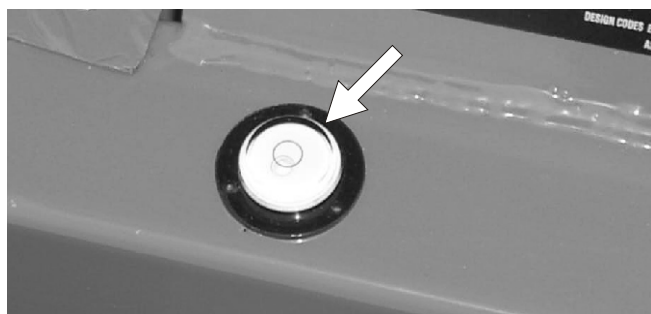
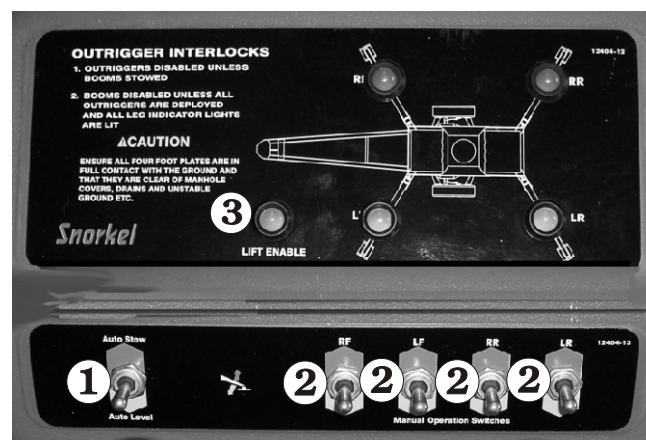

Figure 10.7 - Bubble Level
Figure 10.8 - Auto Level Controls
Lower the rear stabilisers and level the machine using the level bubble (see Figure 10.7) adjacent to the control levers.
1. Operate each switch **2** (see Figure 10.8) to raise or lower each stabiliser one (1) at a time. Use the level bubble (see Figure 10.7) to check the machine is level.